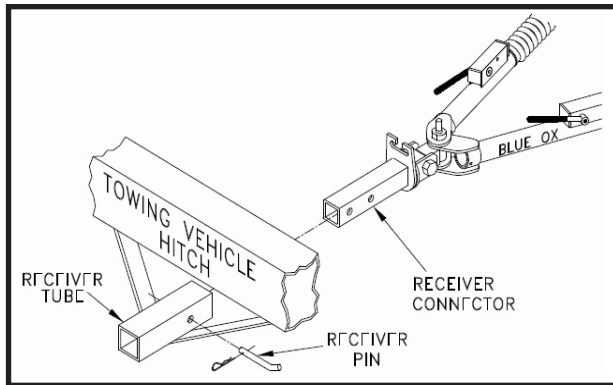

Figure 1
1. Slide the hitch connector into the receiver tube of your towing vehicle hitch. Secure the receiver pin provided into one of the two holes of the hitch receiver. The inside hole of the receiver tube is most commonly used. (Figure 1) Blue Ox offers receiver and towbar lock sets (BX88101) (BX88177) that help prevent theft. Contact Blue Ox for more information.